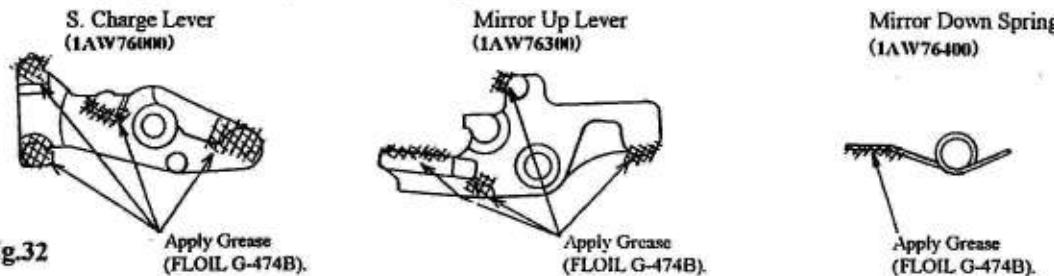

Fig.32
- c) Apply the Grease (FLOIL G-474B) to the S. Charge Lever (IAW76000), Mirror Up Lever (IAW76300) and Mirror Down Spring (IAW76400) as shown in Fig. 32.